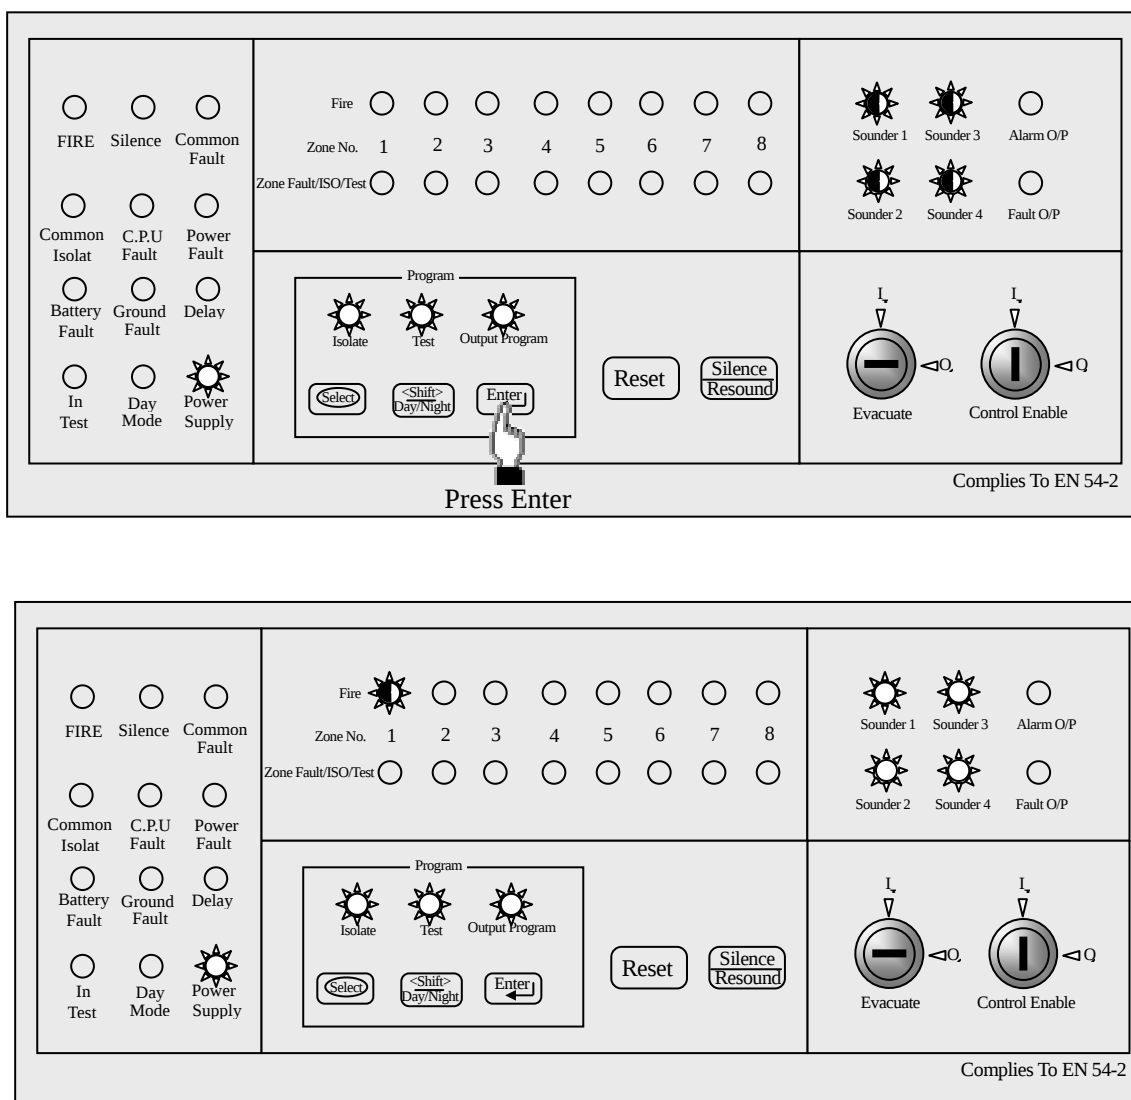

Fig.4.2.7h
- 4.2.7.4.1 Enter in configuring delay time mode (see Fig.4.2.7c). Press the **Enter** pushbutton to enter in sounder delay mode, the indicators from **Sounder 1** to **Sounder 2** become lighting from flashing state and the **Fire** indicator of zone 1 flashes. See Fig.4.2.7h. The indicating state of the **Zone Fault/ISO/Test** indicator in the alarm zone gives the sounder delay time. For example, in Fig.4.2.7h, the delay time is 0.